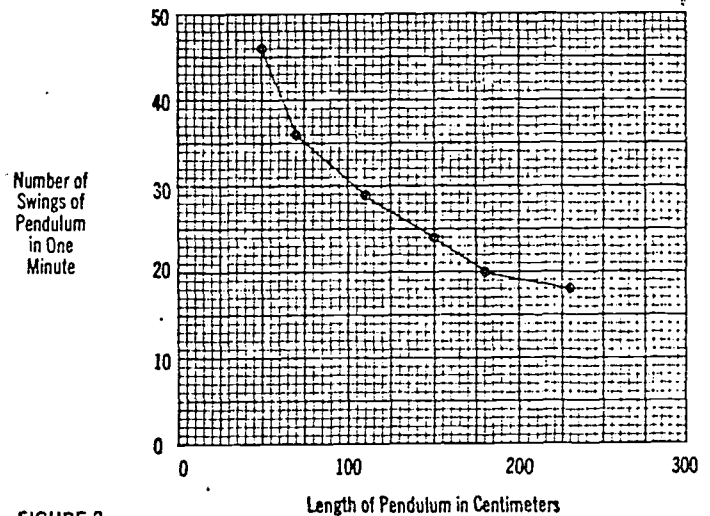
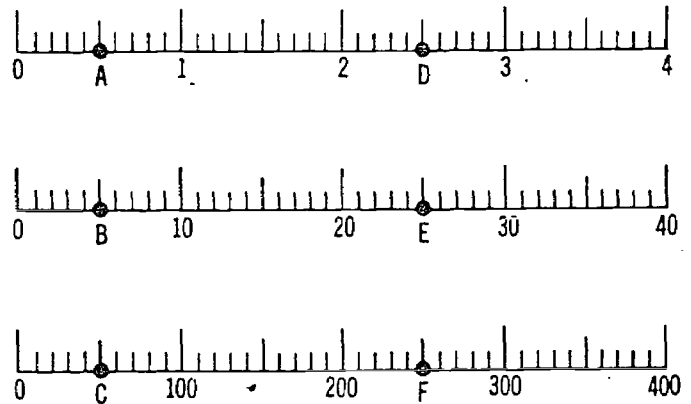

FIGURE 2
FIGURE 3
- Metersticks, 30 (TD)
- Graph (as in Figure 2), 30 copies
- Overhead projector, 1 (NS)
- Number lines (as in Figure 3), 30 copies
7. The number pairs are plotted as a point (or dot) and the point is circled, as shown in Figure 2. (Give each child a copy of this graph to use as a reference.)
To help the children make predictions using the graph, the circles may be joined by either a smooth curve or straight line segments. (A later exercise will explain when to and when not to draw smooth curves.) In Figure 2, the typical data shown in Figure 1 have been plotted and straight line segments have been constructed to connect the points.
Give each child a copy of the three number lines shown in Figure 3, or display them on the chalkboard, or with an opaque or overhead projector. The marks on the lines are identical, but the scales are quite different. Select three points, such as A, B, and C, that have the same position along the number lines, but which represent different numbers.